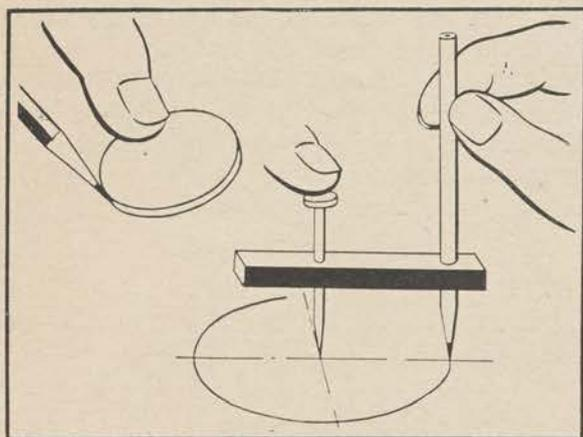

Figure 12.
b. Circles can often be drawn around a coin or an inverted glass. If an improvised compass is needed, it can be made from a strip of wood drilled to accommodate a nail as the pivot and a pencil (fig. 12).